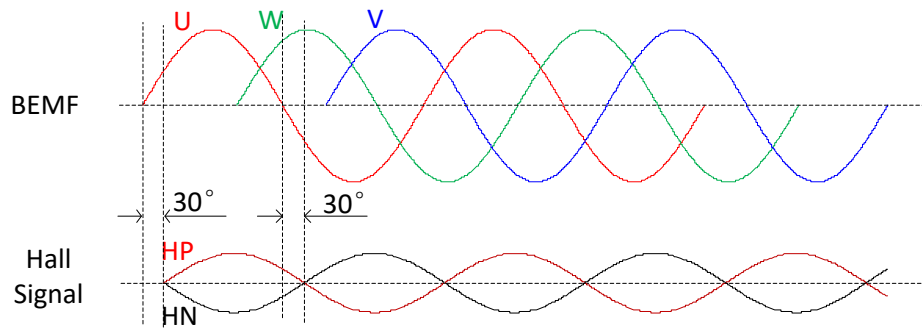

Figure 14. Hall Placement=30° HallPos=1 Hall Element Input
(4) Phase U is leading phase W by 120°. Phase W is leading phase V by 120°. The hall positive output is 30° lagging of BEMF of phase U. Set the register HallPos to 1. The sequence is shown in Figure 14.